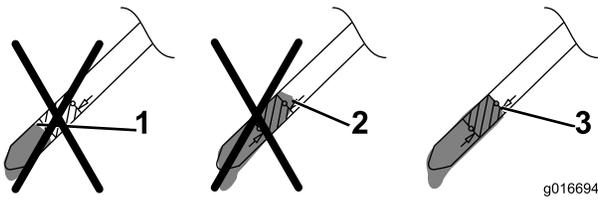

Figure 15
5. Read the oil level on the dipstick (Figure 15).
- If the oil level is too low, **slowly** pour a small amount of oil into the oil-fill tube, wait 3 minutes, and repeat steps 3 through 5 until the oil level is correct as shown in Figure 15.
Adjust the cutting height as desired; refer to Figure 14 and Figure 15.